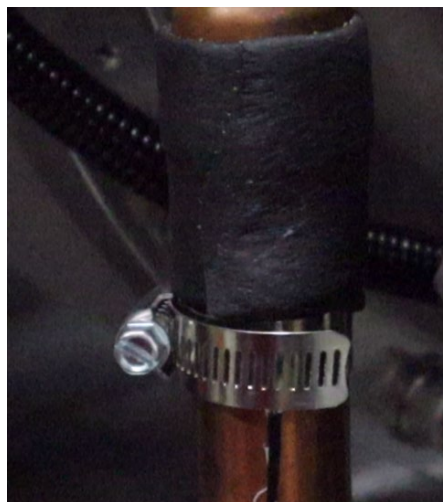

**Figure 1 – Sensor Location**
2. Apply a small amount of thermal paste to where the sensor will be located and then set the sensor in place. Refer to Figure 1 – Sensor Location.